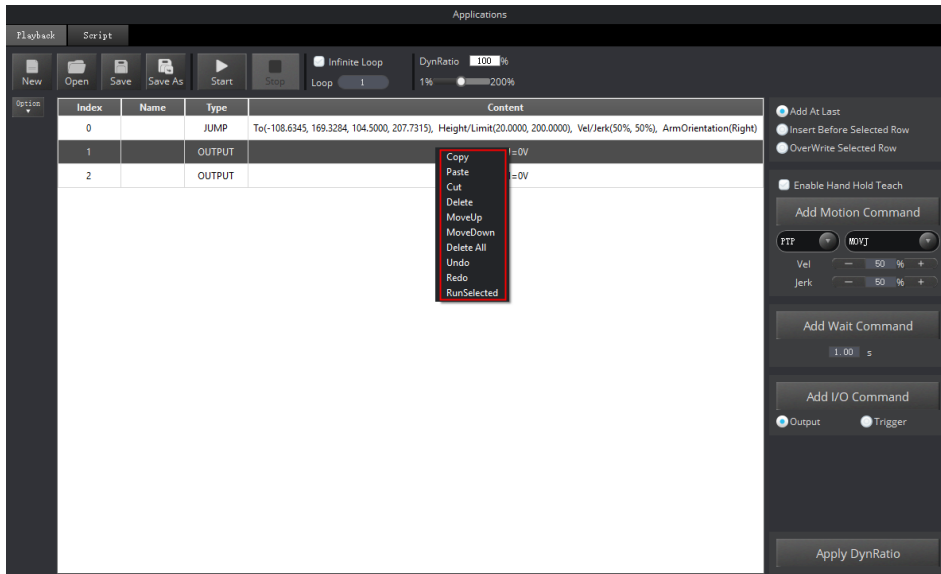

Figure 6.11 Right-click options of the saved points list
- Select a saved point and right-click on the line to copy, delete or other operations, as shown in Figure 6.11.